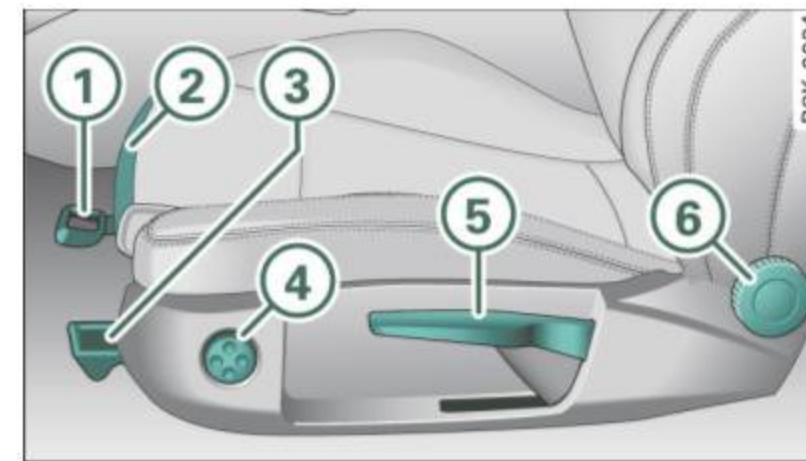

Fig. 75 Controls on the driver's seat
- Pull the lever  ⇒ page 79, fig. 75 up and push the seat to the desired position.
- Pull or push the lever  ⇒ page 79, fig. 75 up or down (pumping motion).
- Turn the hand wheel  ⇒ page 79, fig. 75 to adjust the angle of the seat back accordingly.